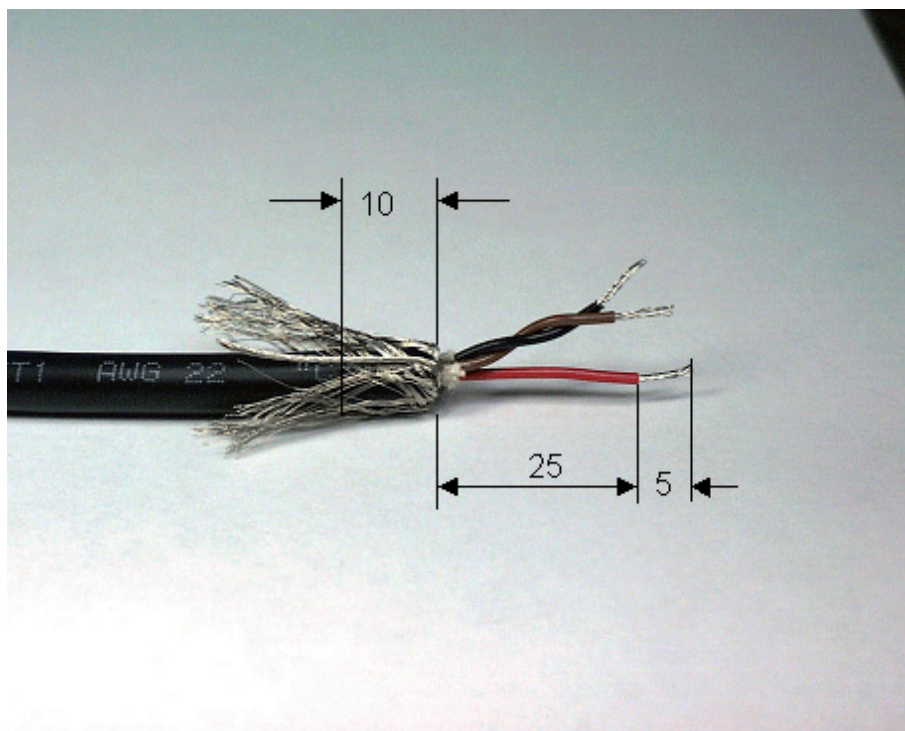

Fig. 8.1. Preparing the cable
As an example of using 2 X 2 wire twisted cores (Fig 8.1):
- Cut the braided shield 10mm from the end as shown in Fig. 8.1.